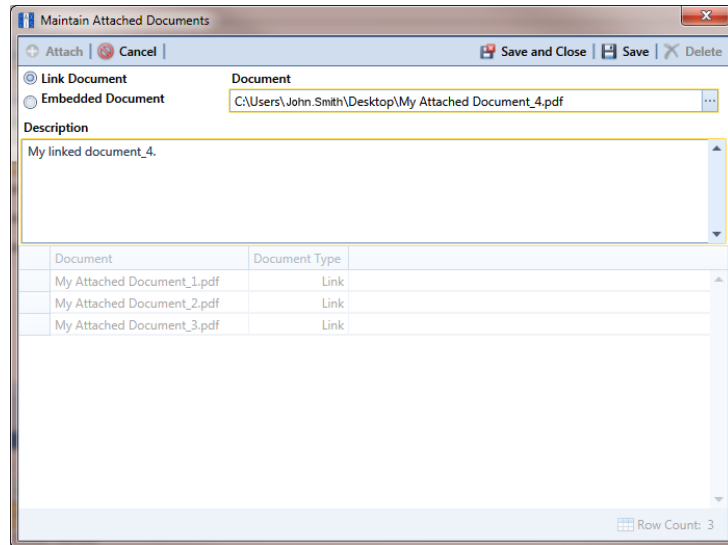

Figure 7-134. Maintain Attached Documents
- 7 If you selected *Link Document* in **step 6** and want to link to a file on a local computer or company network(Figure 7-134), follow these steps: